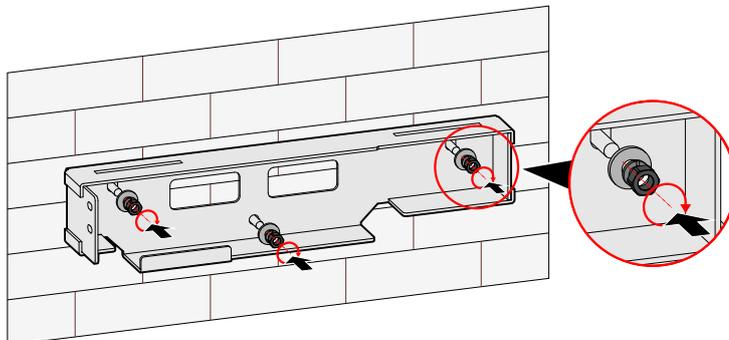

Figure3-24 Fix the wall-mounted bracket
1. Fix the wall-mounted bracket, as shown in Figure3-24.